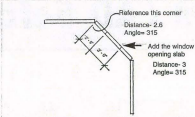

Figure 2
3. Press the [Z] key again, and change your Z base to 3.6 and your height to 6.8. This will be the size of your window opening. Draw the vertical slab for the window, as shown in Figure 2. Reference the wall corners using the [-] key. Use the space bar to define the distance and angles. Make sure you